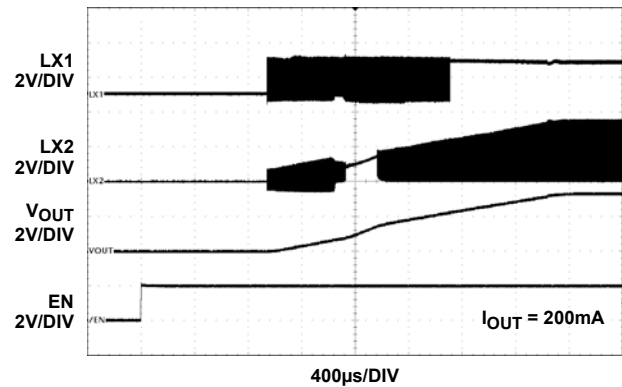

FIGURE 2. ISL91127IR START-UP WITH  $V_{IN} = 2\text{V}$  AND  $V_{OUT} = 3.3\text{V}$
Refer to the following Quick Setup Guide to configure and power-up the board for proper operation. During the power-up process, the expected waveforms are shown in Figures 2 and 3.
7. Monitor the output voltage start-up sequence on the scope. The waveforms will look similar to that shown in Figures 2 and 3.